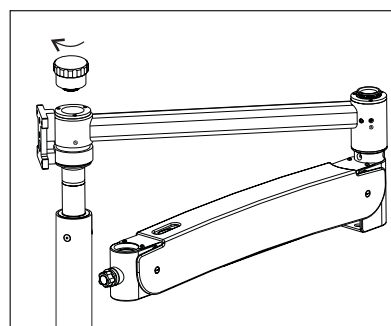

Fig. 4
- 7.5 Place swivel arm on the pillar by sliding in the groove and rotate the suspension arm by 90° as shown in Fig.4.